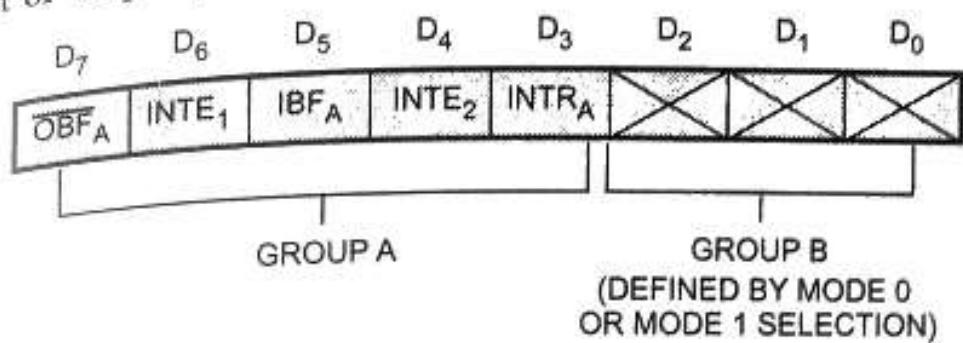

Fig. 3.4.16 Status word for mode 2
- The status word for Mode 2 (accessed by reading Port C) is shown in Fig. 3.4.16.